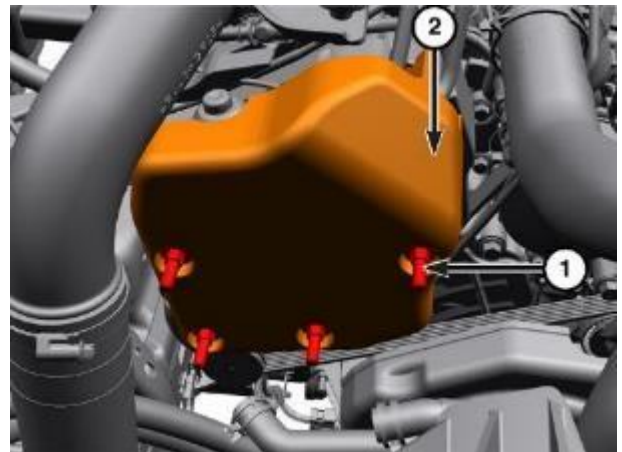

Figure 151 – Pump Sound Proofing
- 15. Remove the bolts (1) securing the sound proofing (2) to the fuel injection pump (Figure 151).